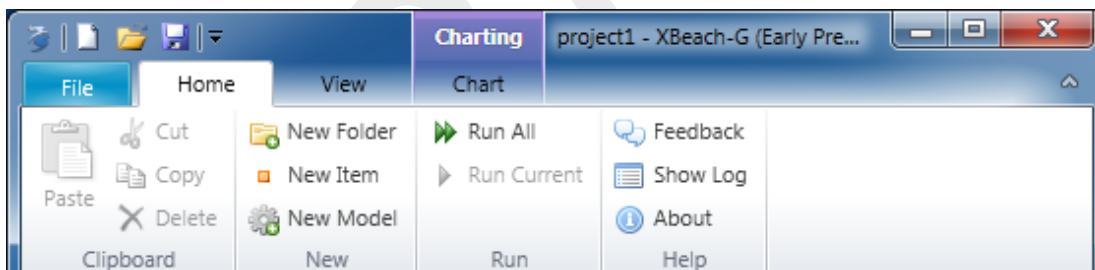

Figure 3.9: Overview of the available buttons in the Home tab
- ◇ **Home** - The home tab offers buttons with general functions that can be used when editing a project (Figure 3.9)